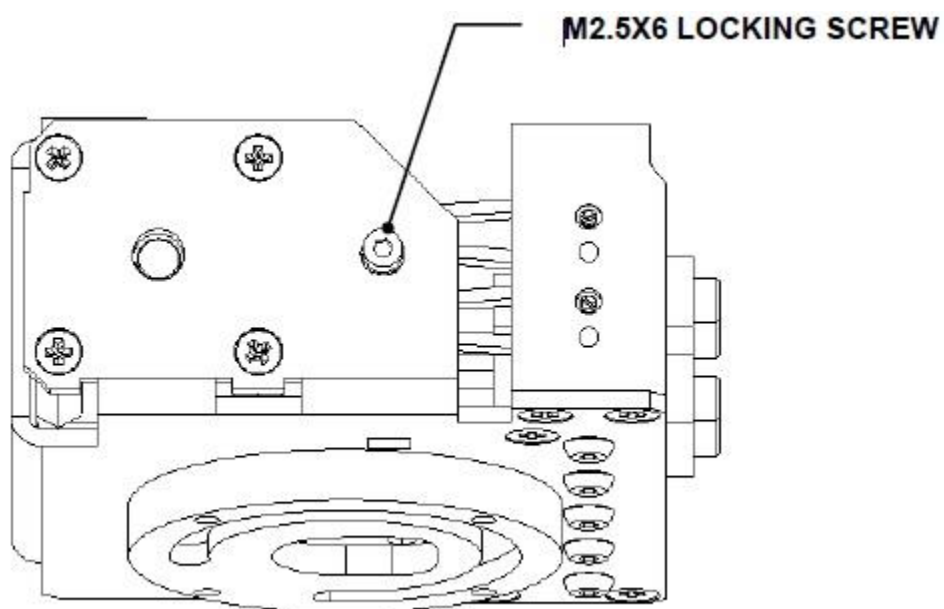

Figure H-22: Locking Screw
7. Fully tighten the M2.5x6 SHCS (Figure H-22).